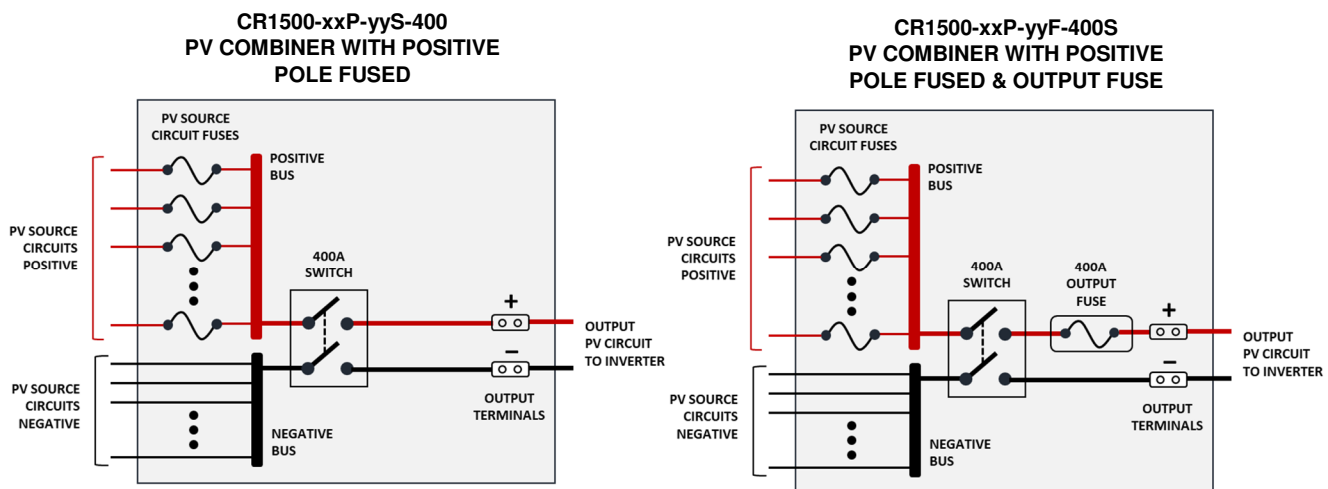

Fig. 2-1. Remote Combiner Options for the XGI 1500-1MW Series Inverters
- Adjustable power factor (PF) ± 0.80 (other ranges apply to certain models)
- PV Source Circuit Combiners: Pair the XGI 1500-1MW series inverters with the Solectria Remote Combiners (CR1500-xxP-yyS-400 series, or CR1500-xxP-yyF-400S series with output fuse, see Fig 2-1 below).